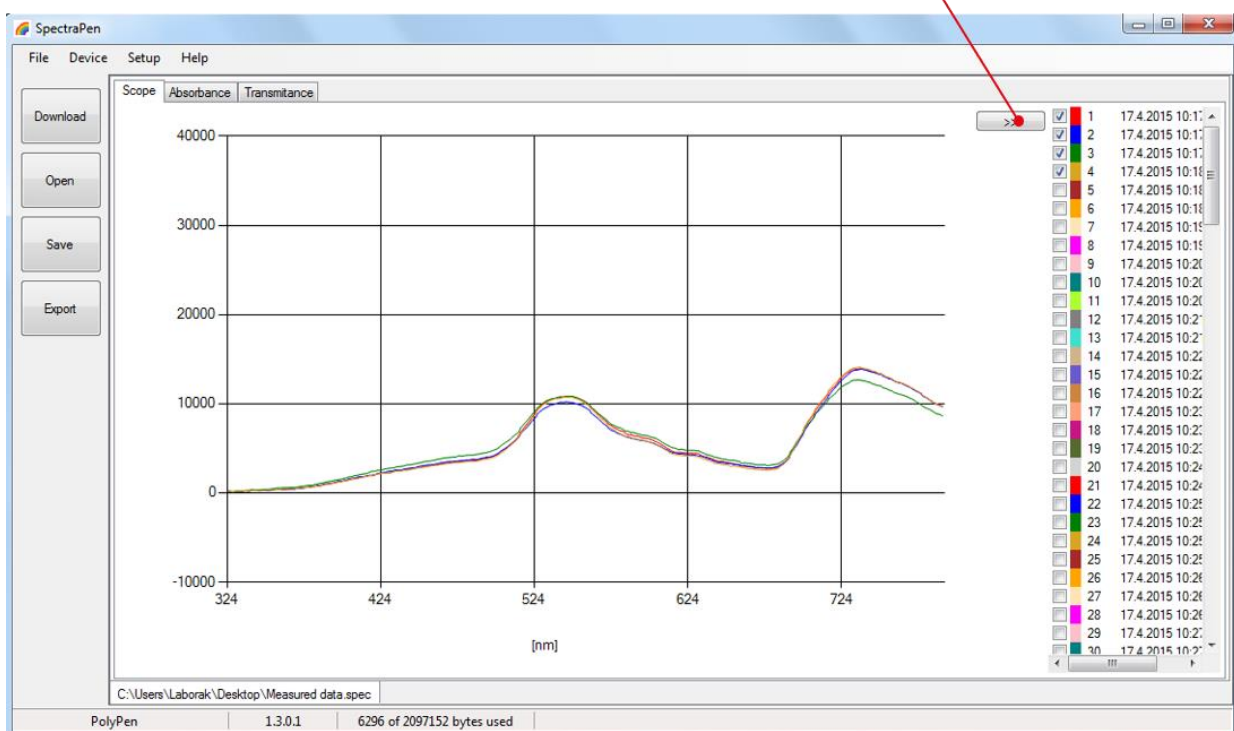

Fig. 31 Switch to vegetation indices.
10. To view the spectral data in parameter values (Fig. 32) click to button with two arrows (Fig. 31). If you want to calculate your own index, you can do it from the raw data in Excel or you can add this formula to the Config/Formulas.txt in the PolyPen program folder. Syntax is very simple, for example: